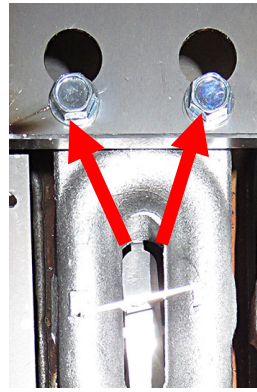

Figure 2
2. Loosen the two (2) bolts on the top of each burner (see Figure 2).